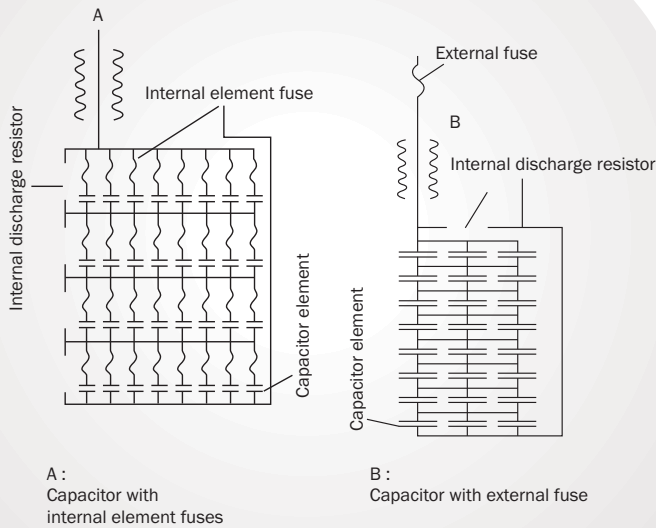

Fig : 2
- Capacitors are protected by internal elements fuses or by external unit fuse (Fig.2)